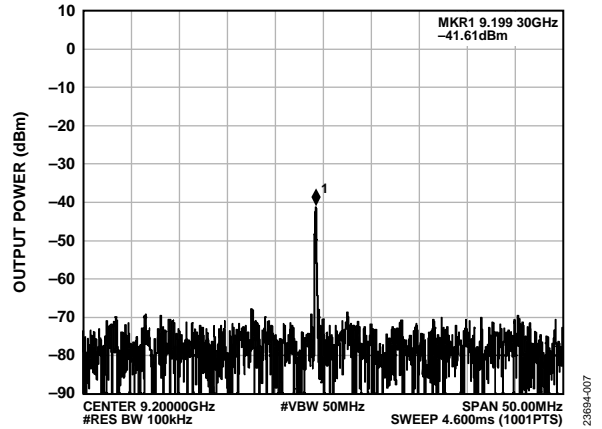

Figure 5. EV1HMC8074LP6G RF1 Output at VCO Band 1, VTUNE = 8.45 V, 9.2 GHz, Buffer Amplifier Disabled (RF1 Output Muted)
Figure 5 shows the HMC8074 with VC1 enabled and the output buffer muted (VCB_EN = 0).
2. Remove the bias for the buffer amplifier (VCB). This removal decreases the output power by approximately 28 dBm. Refer to Figure 5.